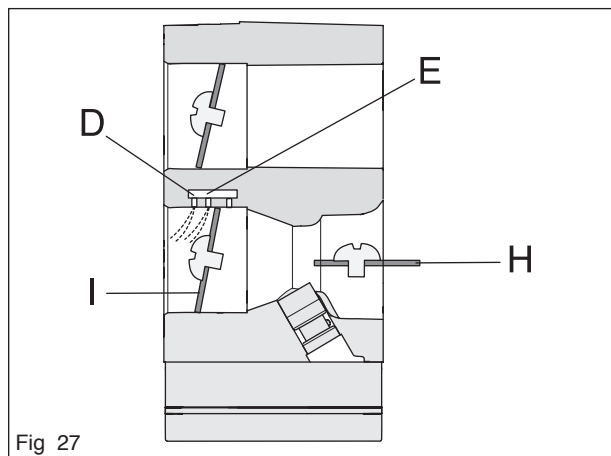

Fig 27
In the part throttle mode (see figure below) the throttle valve (I) is partially open and the choke valve (H) is open. Fuel is supplied through the diffuser jets (D and E). The throttle valve (J) starts to open (see figure 27).